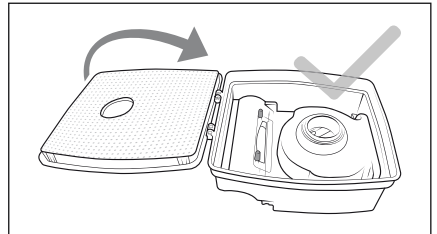

Fig. 11
- 7) Fasten the EPA filter 7 on the lid of the dust container 12 and close it (see Fig. 11).